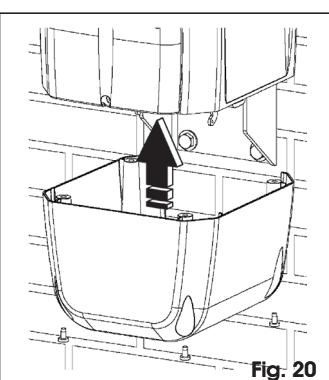

Fig. 20
10. Install the lower housing, using the four supplied screws, Fig. 20.